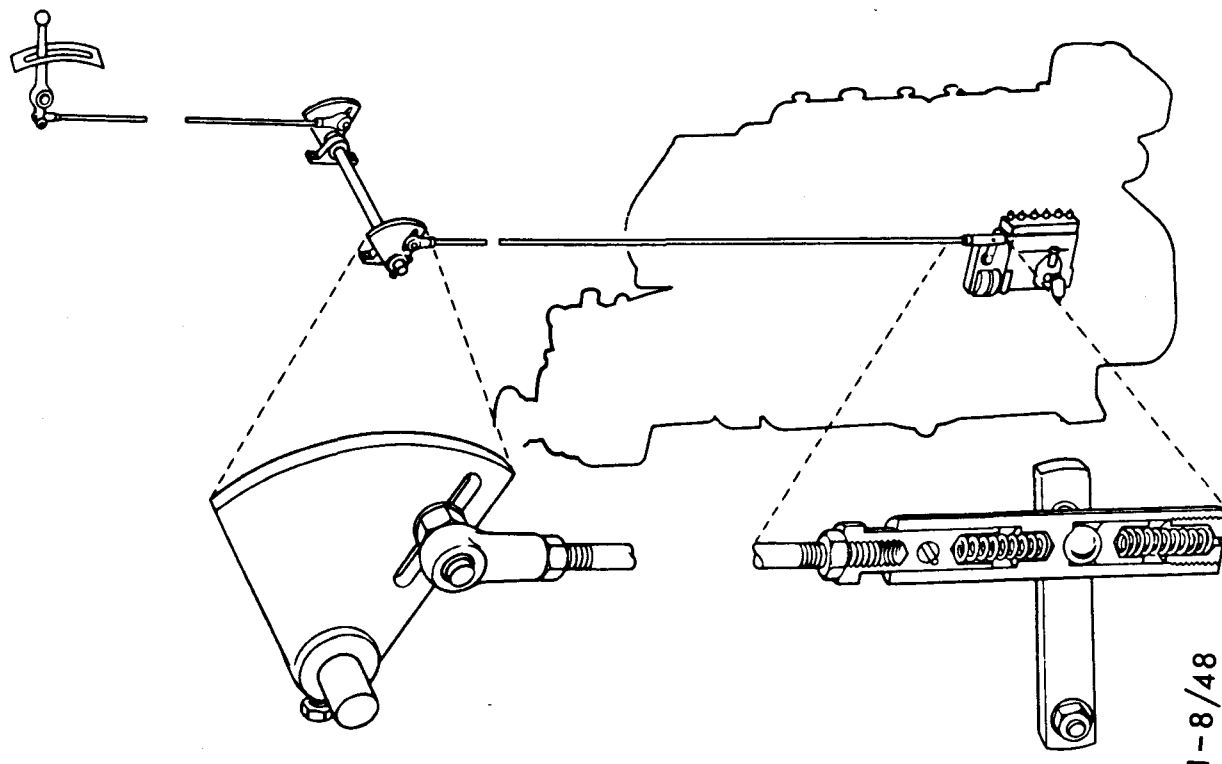

Fig. J2
a) Mechanical linkage system. The operating links must not be bent and should be made free of vibrations with the aid of bearing points. These should preferably be lubricatable and should not be too close to exhaust pipes and other sources of radiation so that seizing occurs. In order to make the movement stroke of the control lever somewhat larger than that of the control arm the angle arms can be made with adjustable radii (see Fig. J2). These angle arms also allow synchronization of the control settings on e.g. installations with more than one engine.